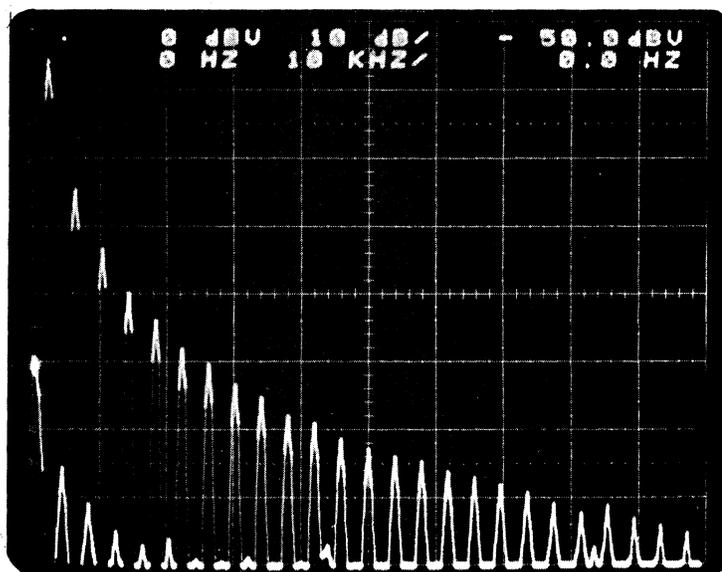

Fig. 4-5a Spectrum Display of TEST Signal, 0 - 100 KHz SPAN
- b. The averaged spectrum of the 2 KHz triangular TEST signal is shown on Fig. 4-5a. The spectrum display does not need any qualification: it is an accurate and unambiguous representation.